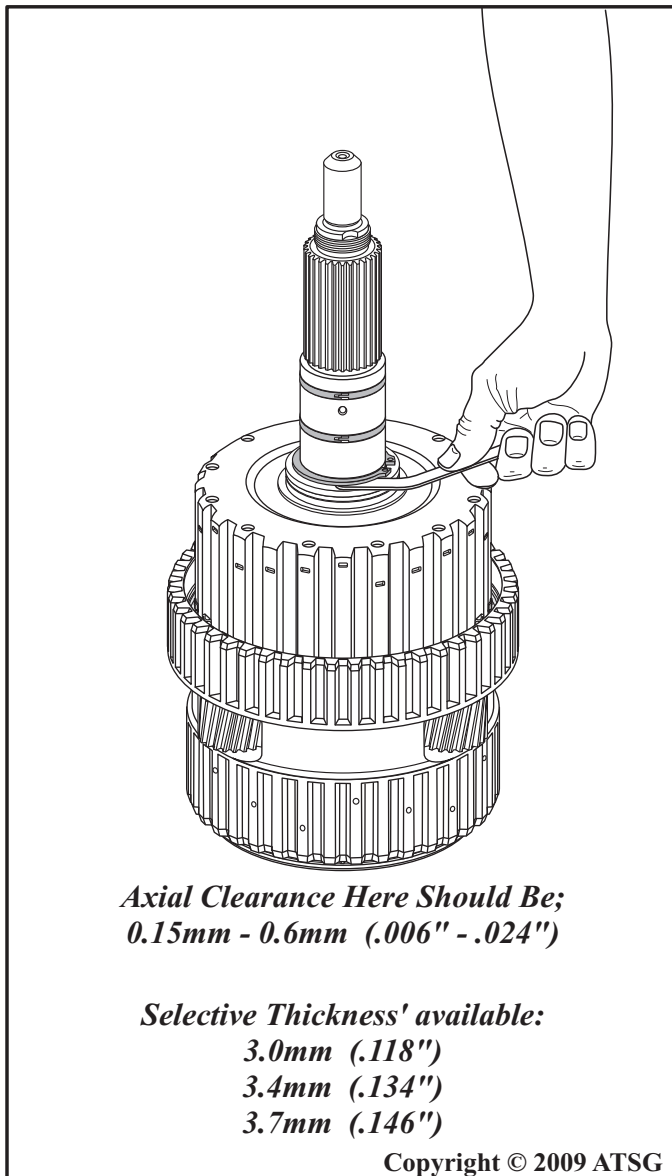

Figure 150
58. Measure clearance using feeler gauge between snap ring and number 13 thrust bearing race, as shown in Figure 150.
59. The planetary gearset axial clearance should be 0.15mm - 0.6mm (.006" - .024"), as shown in Figure 150.
60. Change the number 13 thrust bearing race to obtain the proper clearance. There are three selectives for this location and are listed in Figure 150.